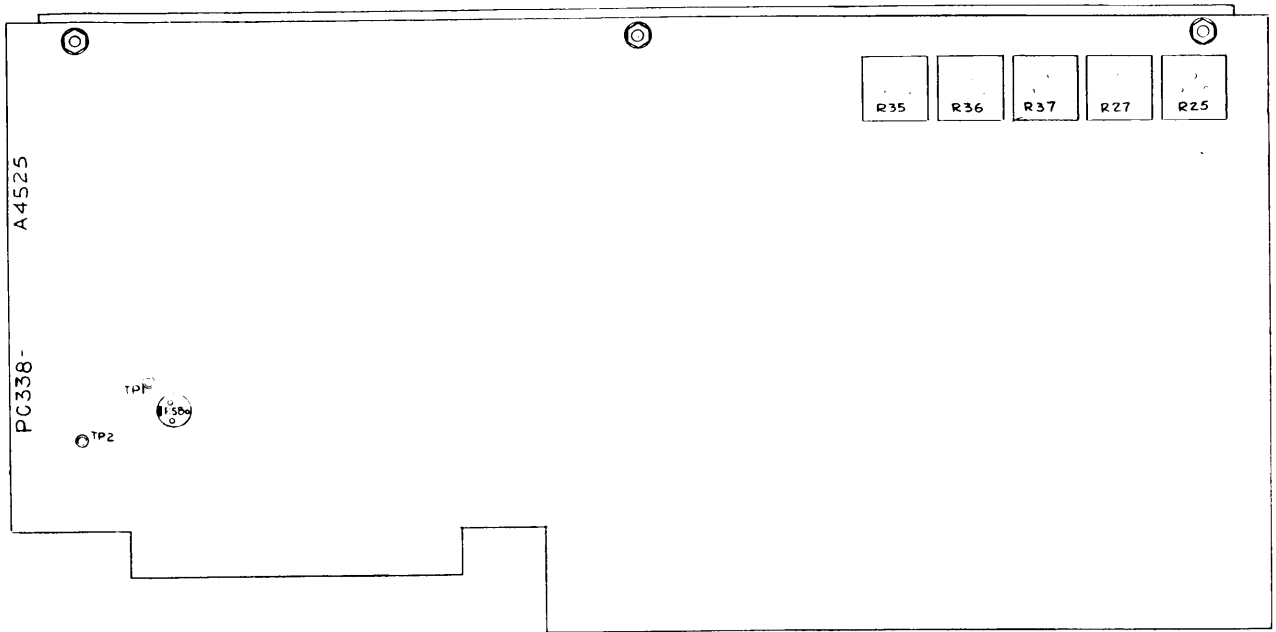
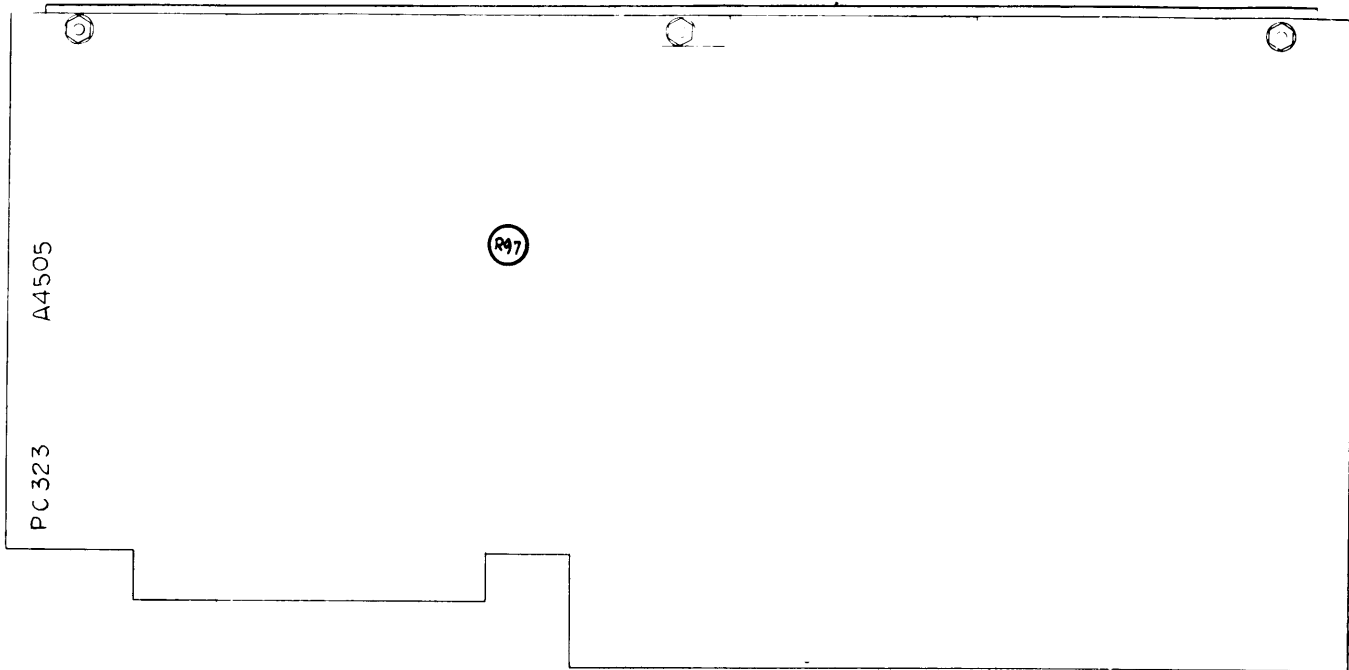

Figure 5-9. Frequency Shift Generator Z108, Adjustments
Figure 5-16. Translator Z112, Adjustments
j. FREQUENCY SHIFT GENERATOR Z108. (See figure 5-9. )
- (14) Examine the resultant sine waves by moving the TIME/CM oscilloscope controls through a wide range. There should be no trace of modulation. Remove the oscilloscope.
- (15) Set the MMX frequency to 29.2500 MHz. With Front Panel carrier control fully CW, adjust RF OUTPUT control for 2.5 volts on the VTVM. Set MMX frequency to 29.7500 MHz, and adjust R109 on Z112 for the same output level. (some models only)
- (16) Vary the frequency selectors from 29.0000 to 29.9999 MHz and find the frequency with the lowest indicated output amplitude. Then adjust R97 on Z112 (see figure 5-16) for maximum signal at that frequency.
- (17) Turn MODE switch to CW position.
- (18) Select 29.9999 MHz on front panel.
- (19) Rotate RF OUTPUT control fully CW; adjust R58 on Z108 (see figure 5-9) for 7.0 VRMS on the VTVM.
- (20) Turn MODE switch to ISB position and rotate CARRIER control fully clockwise.
- (21) Set front panel frequency selectors to 12.0000 MHz.
- (22) Adjust RF OUTPUT control for 3.5 VRMS on HP411A VTVM. (Do not touch RF output control for the rest of these adjustments unless told to do so.) Observe that one signal is present on the spectrum analyzer. Adjust the spectrum analyzer display so that this signal is at a 0DB reference.
- (23) Turn MODE switch to CW position.
- (24) Adjust R20 on Z109 (mounted on the extender card) for 3.5 VRMS on the VTVM. Observe that one signal is present at 0 db level on the spectrum analyzer.
- (25) Switch from ISB (Full Carrier, no Audio) to CW; there should be no change on the VTVM RF output voltage indication.
- (26) Turn MODE switch to AM (no modulation applied).
- (27) Adjust R69 on Z109 an indication of 1.75 VRMS on VTVM.